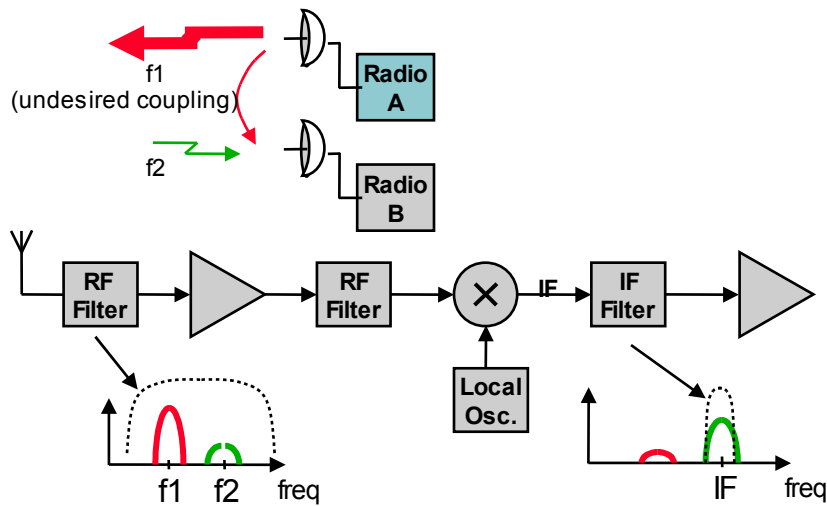

Figure 2.4 - Co-located radio interference
Figure 2.4 also shows a block diagram of the radio front end circuitry. It includes an RF filter to reject out-of-band signals, followed by a Low Noise Amplifier (LNA), a second RF filter, Mixer and finally the Intermediate Frequency (IF) filter. Channel selection occurs at the Intermediate Frequency (IF), where the narrow band IF filter blocks out the other channels. This means that if the interferer (radio A) is in close proximity, and is transmitting while radio B is trying to receive, it may saturate the LNA or the Mixer of radio B. This results in radio B making errors even when it is set to a different channel than radio A.
When you co-locate multiple devices you must choose a fixed split and it must be the same for all the co-located radios. The radios will then synchronize their cycle periods so that all co-located radios transmit at the same time and then receive at the same time. This avoids the situation depicted in Figure 2.4 altogether. With a synchronized site you can then deploy upwards of 24 radios at the same location.